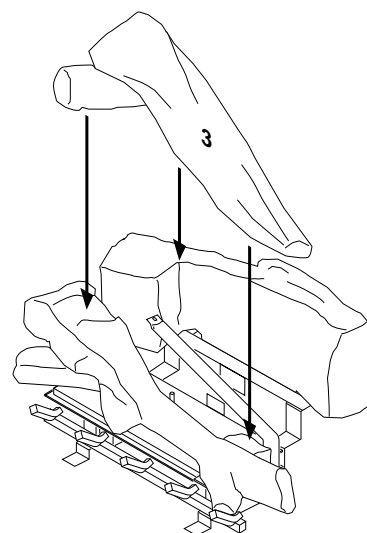

Figure 48 - Installing Log Assembly No. 3
3. Place log #3 (crossover assembly) onto the notched out section of log #2. Log #3 rests on the back portion of front log and in the crook of back log (see Figure 48).